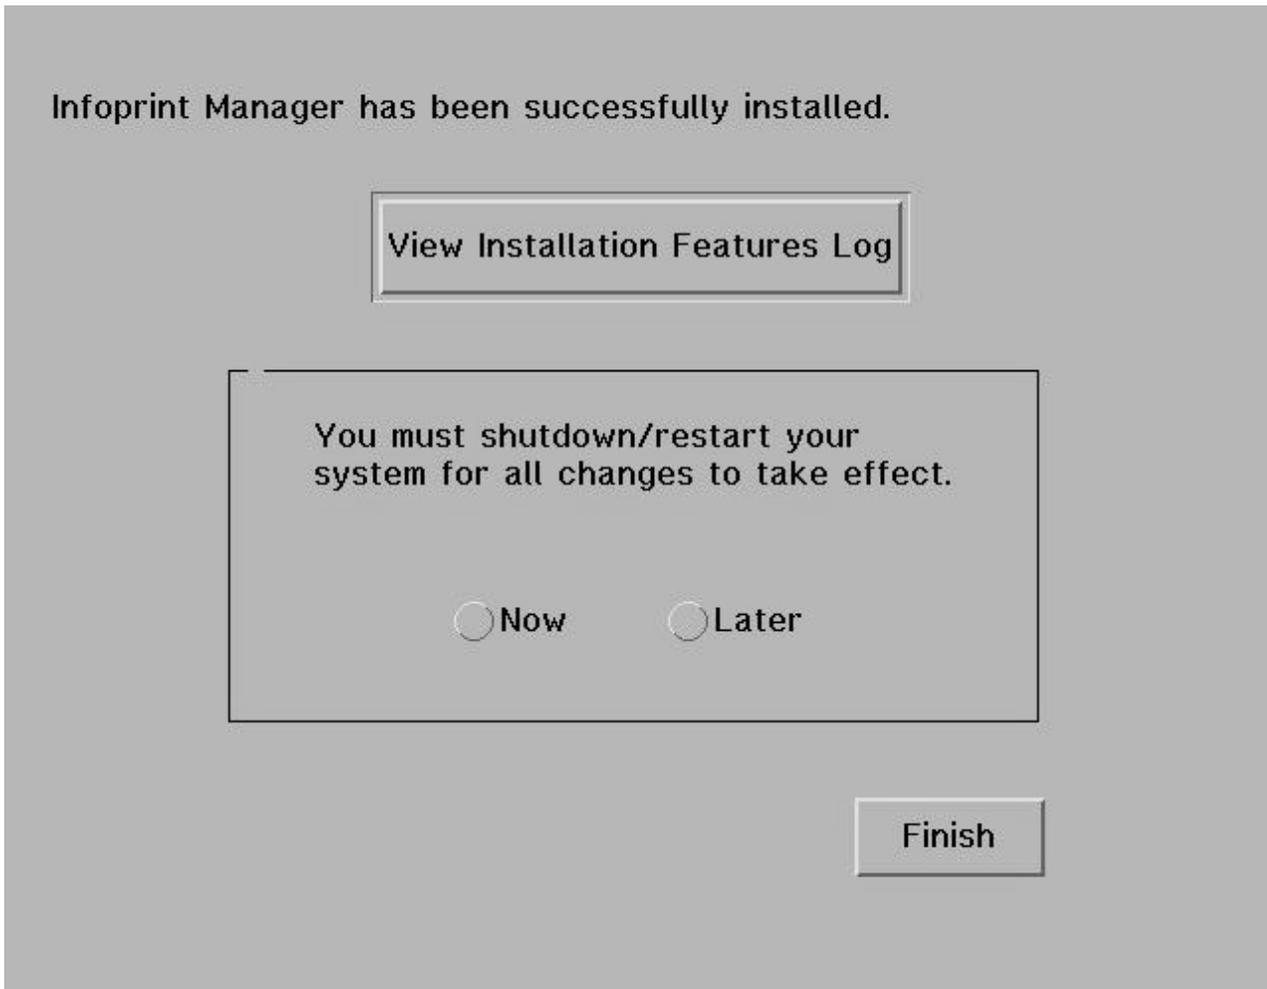

Figure 8. Final Infoprint Installer panel
8. Once all features have been installed, the Installer displays a panel (Figure 8) that gives you the option to display the full set of features installed.